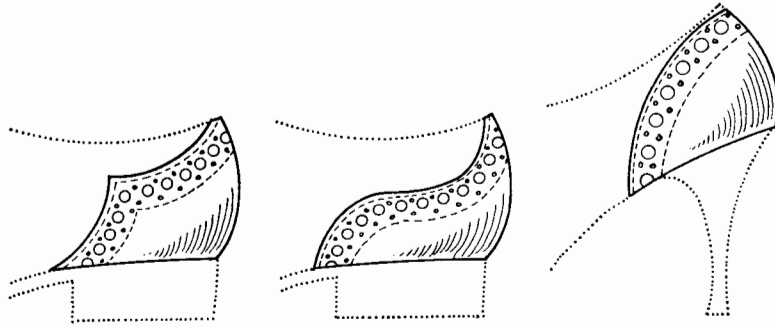

Fig. 16. Figure foxing
**Foxing.** Foxing is an extra piece of leather of various patterns fitted into or on top of the back part of the quarters. It serves only as a trimming and adds nothing to the strength of the shoe for, in most instances, a piece of the same shape and size is cut away from the quarters. It is often cut from a different kind of or different colored leather, thus creating a two-tone effect (Fig. 16).